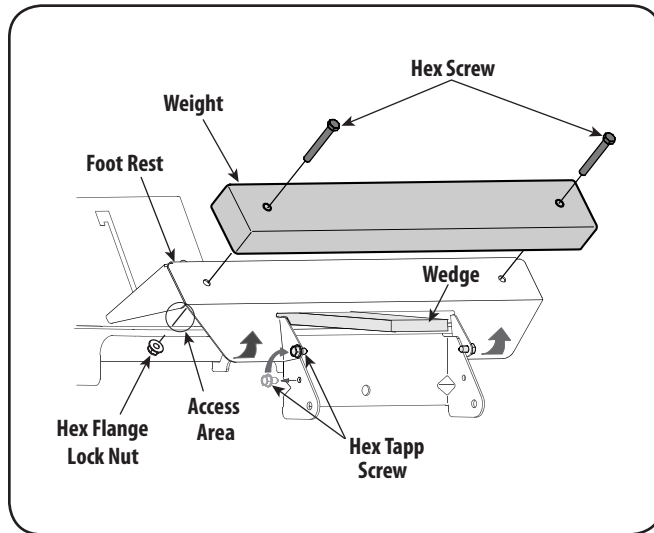

Figure 4-20
Because the openings between the foot rest and the tractor frame (Refer to Fig. 4-20) provide only limited access for installing the hex flange lock nuts, it is recommend that you enlarge these access areas by temporarily raising the front of the foot rest. To raise the front of the foot rest, proceed as follows:
2. Grasp the front of the foot rest and lift it upward. Use one (or both) of the following methods to hold the front of the foot rest in the raised position while installing the weight. Refer to Figure 4-20.
5. Insert two 710-3022 hex screws, from hardware pack 689-00093, through the hole at each end of the weight. See Fig. 4-20.